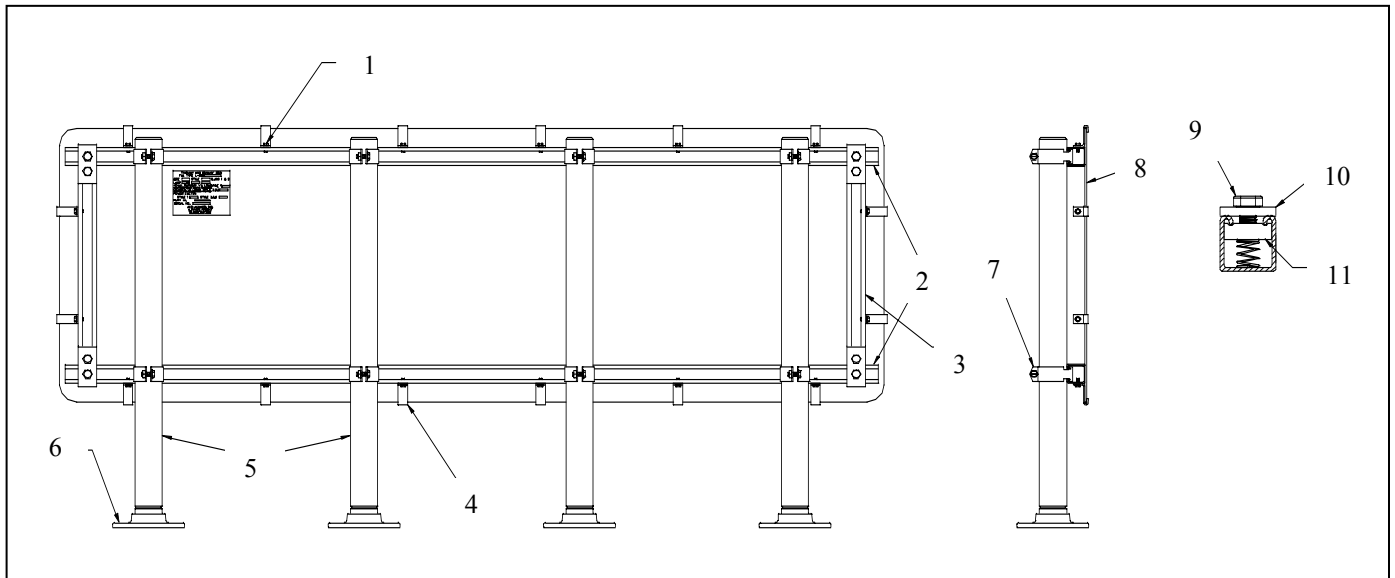

Figure 10. L-858 Single-Faced Sign, All Sizes and Modules
See Figure 10. Refer below for the single-faced unlighted FAA Style 4 sign parts list.
**NOTE:** Figure 10 shows a one module, Size 2 single-faced sign. Parts are similar for other sizes and modules.
See Figure 10. Refer below for the single-faced sign recommended spare parts.